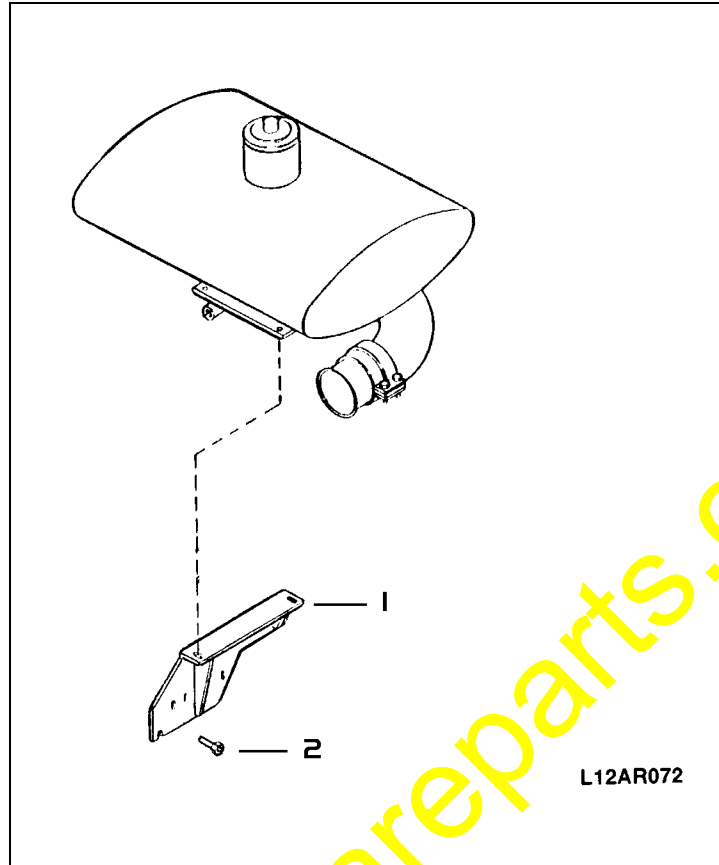

Figure 1
1. To install new mounting brackets, bolts and spacers, see Figures 1 & 2.